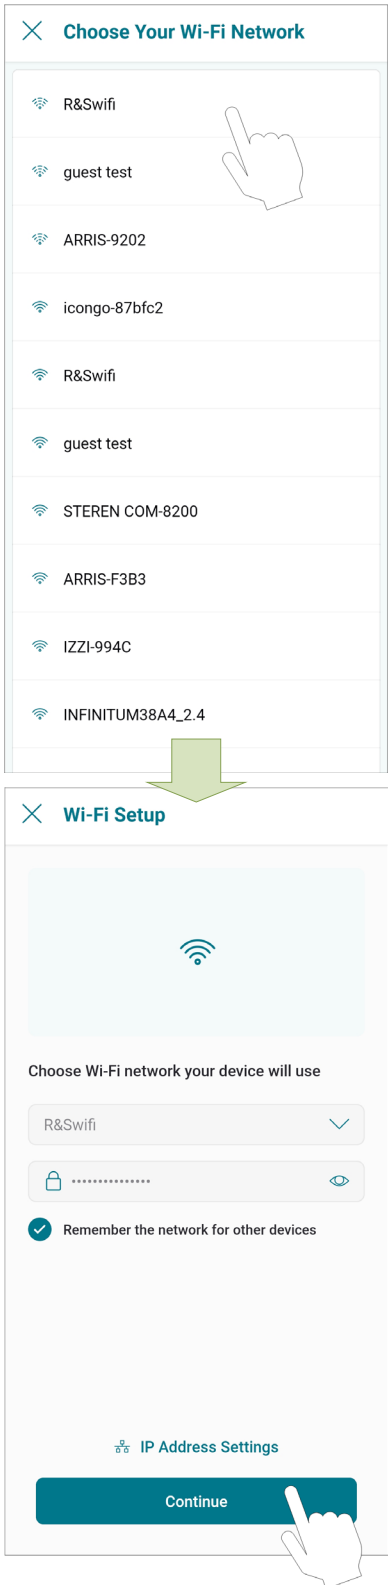

**Figure 85. Connecting with iPhone**
4. **In iPhone:** Raymote app will start to scan nearby Heaters. If you have multiple units ready to connect, stand closer to the unit you want to connect first. Press "Join" to select the displayed heater that matches the HOTSPOT identifier, or press "Cancel" to start the process again. See **Figure 85**.